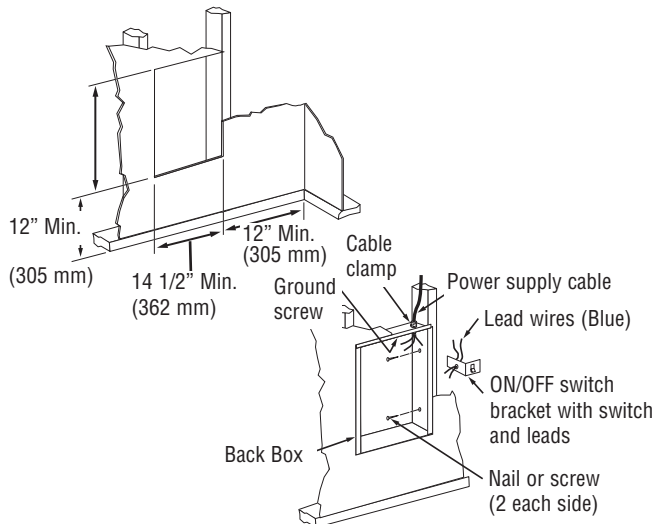

Figure 2 - Locating Back Box in Existing Construction
1. Provide a wall opening 14-1/2" (362 mm) wide by 18-1/2" (470 mm) high at the desired mounting height, but no closer than 12" (305 mm) from floor or adjacent wall. (See Figure 2.) Locate so at least one side of opening is at wall stud.
2. Run a power supply cable into the knockout area in the upper right hand corner of the wall opening (see Figure 2). All wiring must be in accordance with National and Local Electrical Codes. Refer to Specifications for correct wire size.